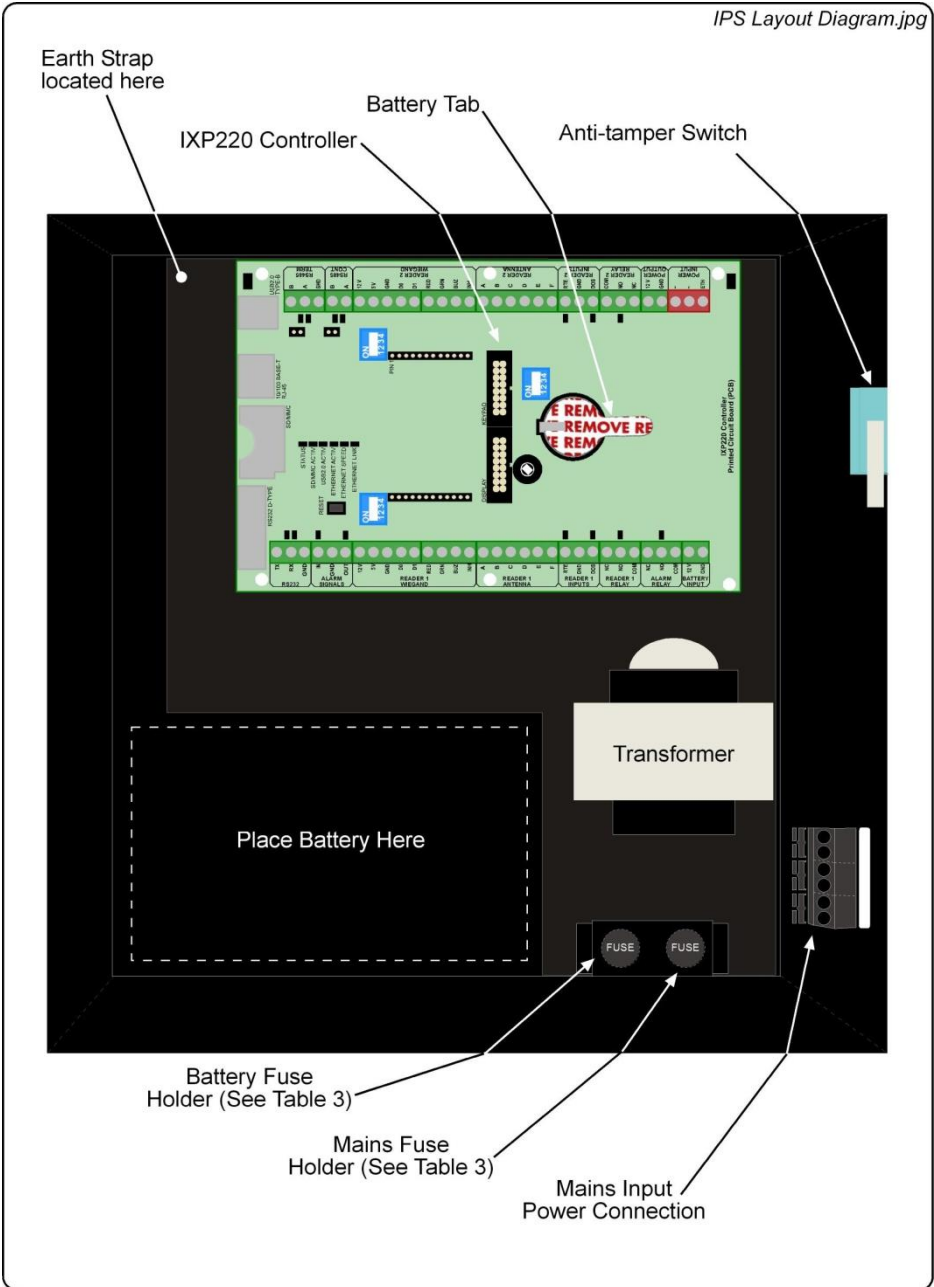

Figure 5: Power Supply Combo Layout
NOTE: During mounting, we recommend removing the Power Supply Combo's Earth Strap. As indicated in Figure 5, locate and disconnect the Earth Strap from the Lid of the Cabinet. This allows easy removal and replacement of the Lid during installation. After installation, we strongly recommend you reattach the Earth Strap to the Lid.
3. Use the supplied Connection Leads for the low voltage connections to the Power Supply Combo, see Figure 5.